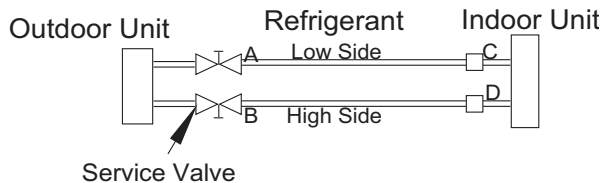

Fig. 17 – Service Valve
- 1 Completely tighten the flare nuts (A, B, C, D, E). Fully open all circuits service valves. Connect the manifold gage charge hose to the charge port of the low side Master service valve to evacuate all circuits at the same time (see Fig. 17.).